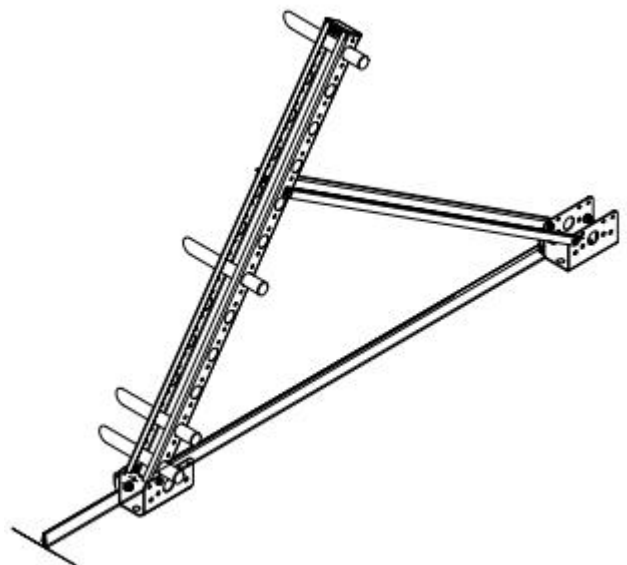

Figure 3.
- To the U-bracket plates, attach the strut and the ties using 6 M6x16 screws with nuts. The strut must be fastened in a vertical position (Figure 3).